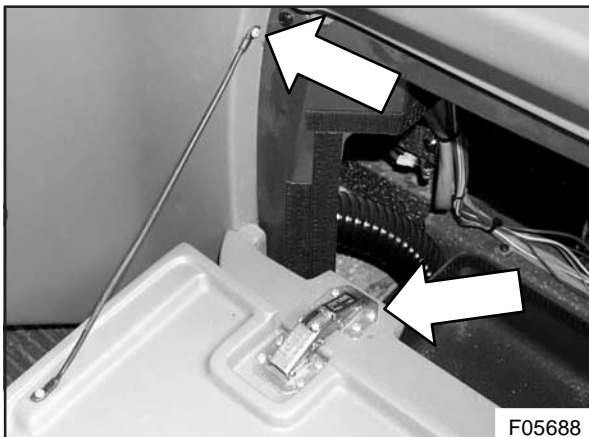

Figure 2: Road map compartment door check strap and hinge
- 3) Open the road map compartment. Undo and remove the machine screws securing the two compartment door check straps (see Figure 2).
- 4) Undo and remove the machine screws securing the door hinges to the road map compartment (see Figure 2).